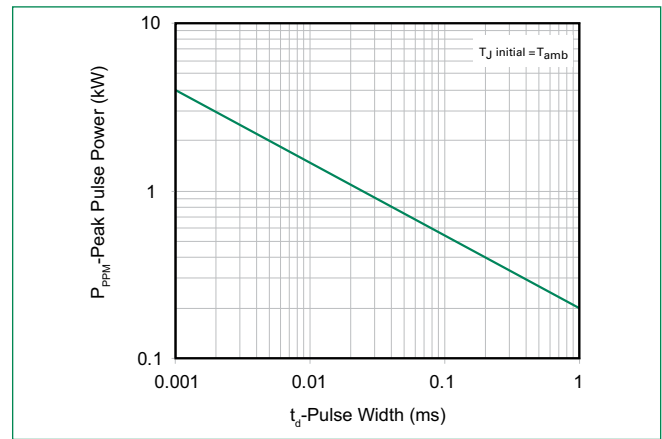

Figure 3 -
1. Non-repetitive current pulse, per Fig. 4 and derated above T_J (initial) =25 $^\circ\text{C}$ per Fig. 3.